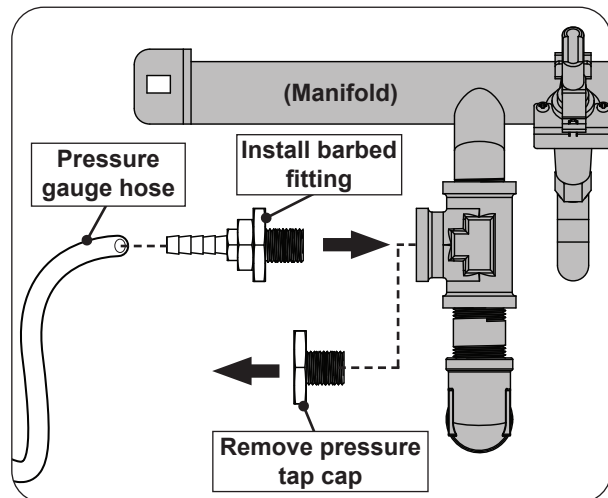

Fig. 21-1 Perform test point pressure test
2. Use a $\frac{3}{16}$ " hex key to remove the pressure tap cap (see Fig. 21-1).
4. Install a pressure gauge hose to the barbed fitting (pressure gauge and hose not included). See Fig. 21-1.